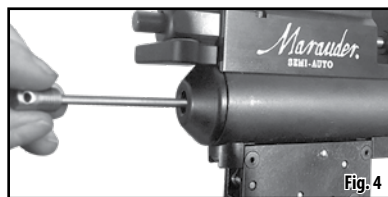

Fig. 4
4. Insert the degassing tool (NOT included) into the threaded plug as shown in Figure 4.